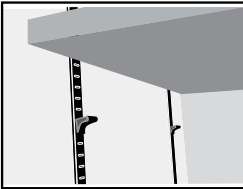

Figure 12.1
1. Remove the shelf from by lifting it off the support clips (tilting if necessary) and removing it from the safe (Figure 12.1).